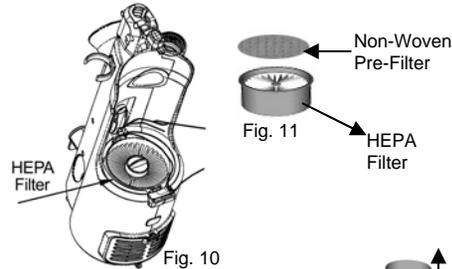

Fig. 11
3. The HEPA filter is located underneath the dust cup container. (Fig. 10) Remove the non-woven pre-filter. (Fig. 11) Remove the HEPA filter, hold the edges and pull it out slowly.